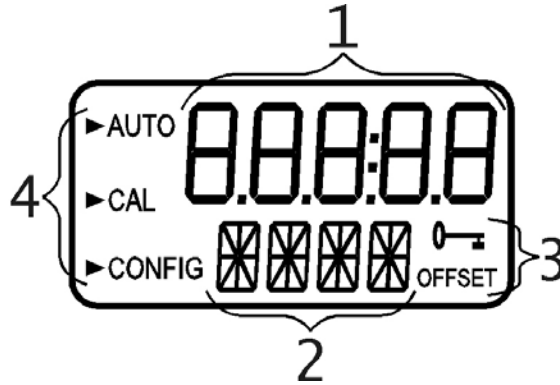

Figure 1 – Display used in the instrument.
Figure 1 illustrates all the items that can appear on the display. The upper row of the display (1) is used for reporting the %T levels and to provide user guidance in the customer setting routine. The lower row of the display (2) is used to communicate error messages and provide user guidance. All error messages will be added to a queue along with the units (%T). The display has two icons (3) that are used to indicate the use of access code and offset mode. In addition, mode arrows (4) are used to indicate the current instrument operating mode; AUTO (automatic operation), CAL (calibration) and CONFIG (configurations).